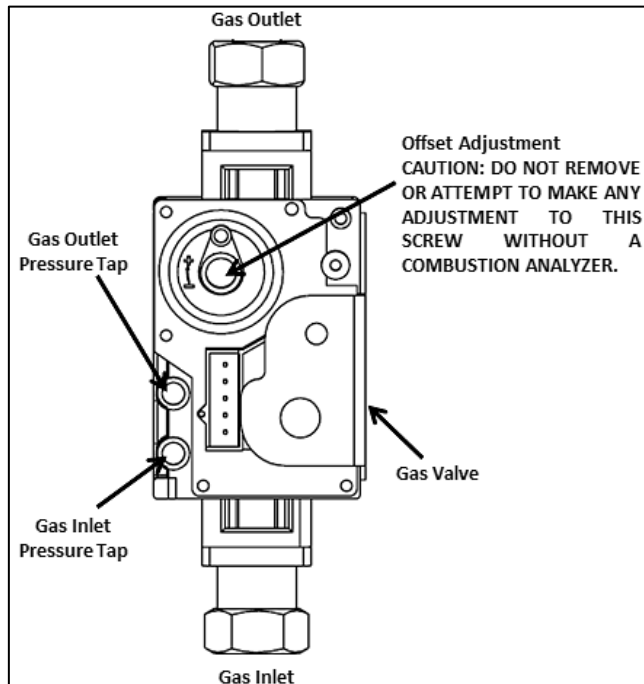

Figure 49 –Gas Valve Detail
NOTE: Refer to Figure 49 when adjusting gas pressure. Loosen the screw before checking the gas inlet pressure.
3. Loosen the gas inlet pressure tap screw three turns with a screwdriver. Connect the manometer to the inlet gas pressure port. See Figure 49.